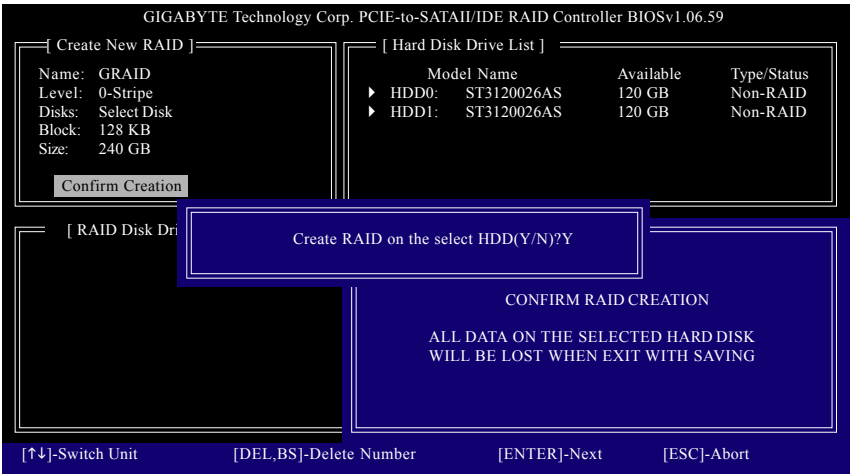

Figure 8
- 6. **Confirm Creation:** After all of the items above are configured, the selection bar automatically jumps to the **Confirm Creation** item. Press <Enter>. When prompted to confirm your selection (Figure 8), press <Y> to confirm or <N> to abort.